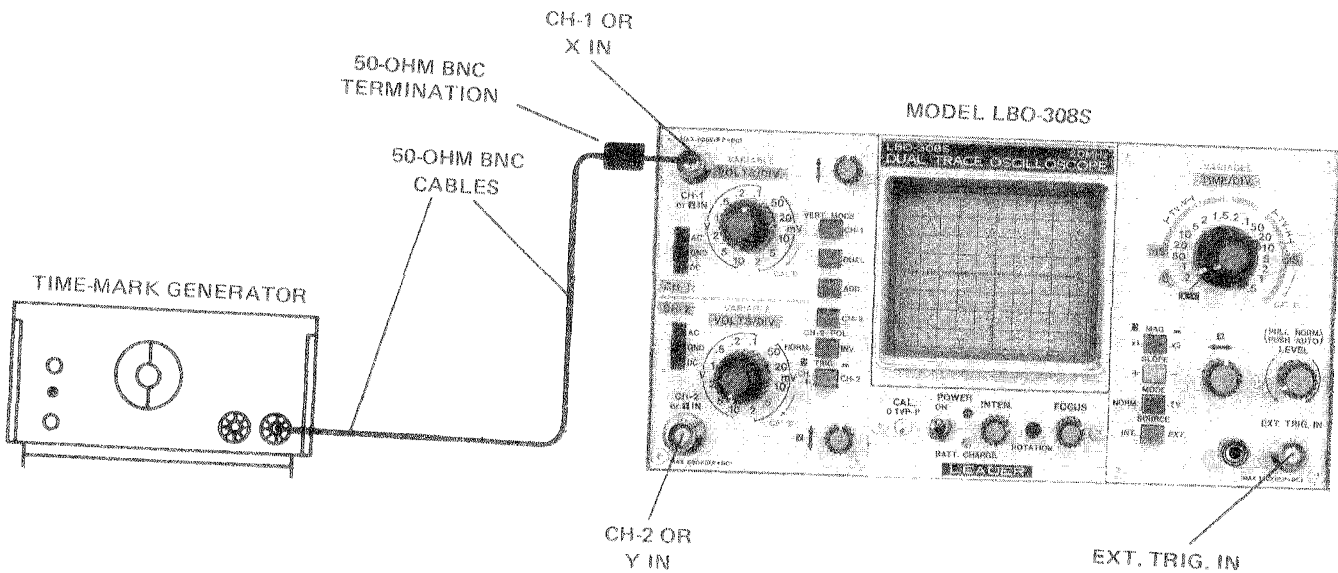

Figure 3-5. Sweep Time Accuracy Test Setup
- a. Connect equipment as shown in Figure 3-5.